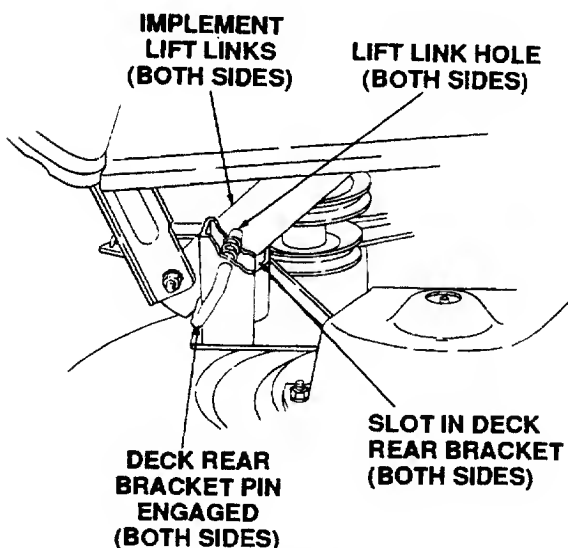

Figure 52
8. Carefully engage the tractor implement lift links (left and right) into the deck rear bracket slots (left and right) as the tractor implement lift handle is lowered to its lowest setting. (Refer to Figure 52.)
9. Pull the deck rear bracket pins outward, turn upward so the open ends of the pins are outside the brackets and release. Adjust each pin until it passes through the hole on the inside of the bracket and the hole in the lift link. (Refer to Figure 52.)